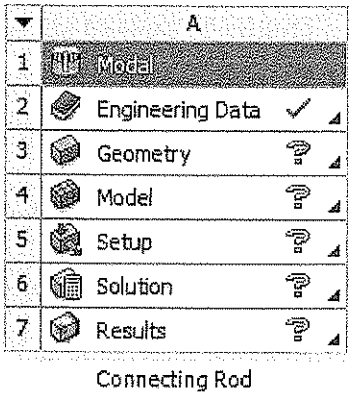

Figure 10-26 The Connecting Rod analysis system
5. In the **Project Schematic** window, rename the **Modal** analysis system to **Connecting Rod**, refer to Figure 10-26.